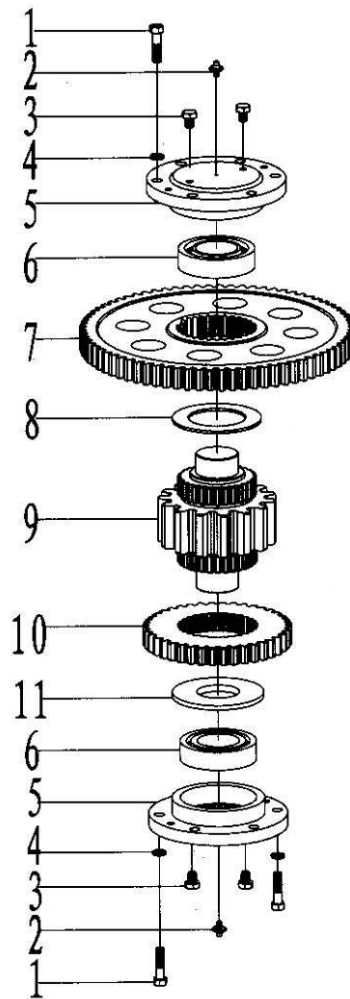

Fig 7
7.7 Assembly of triple gear (Fig 7, Table 7)